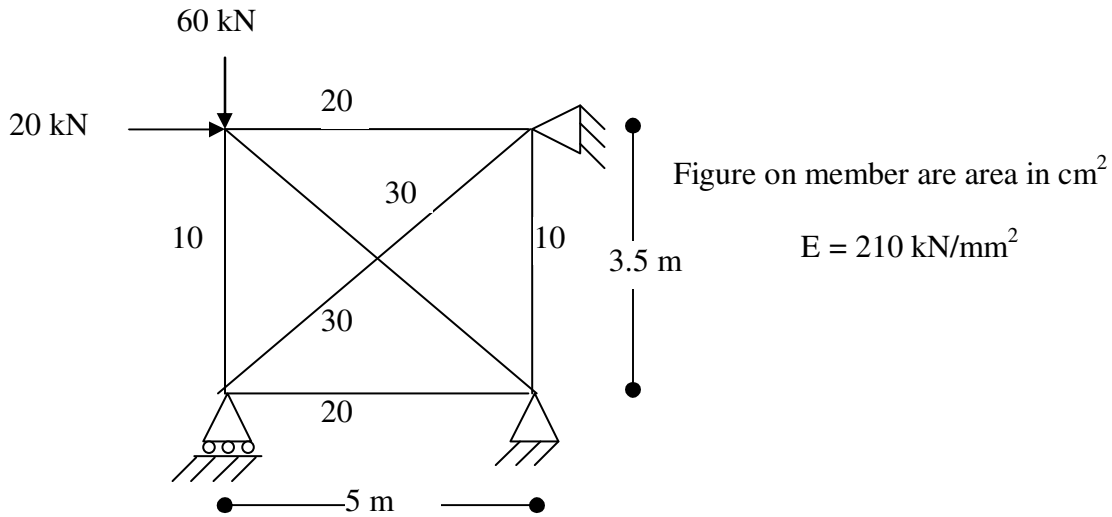

Fig. 1
Q. 4 Analyse the plane truss shown in fig. 1